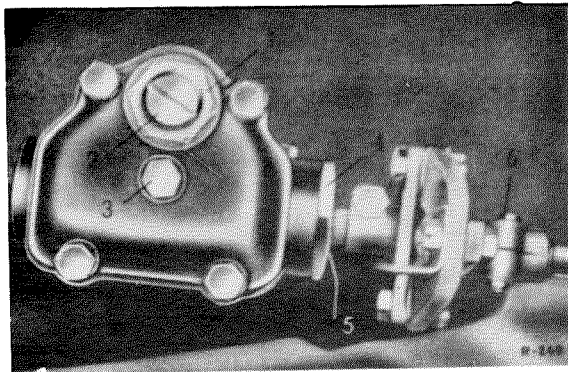

Fig. 01 — 2/1
7. Loosen and remove the upper clamp screw (6) of the steering coupling (see Fig. 01 — 2/1).